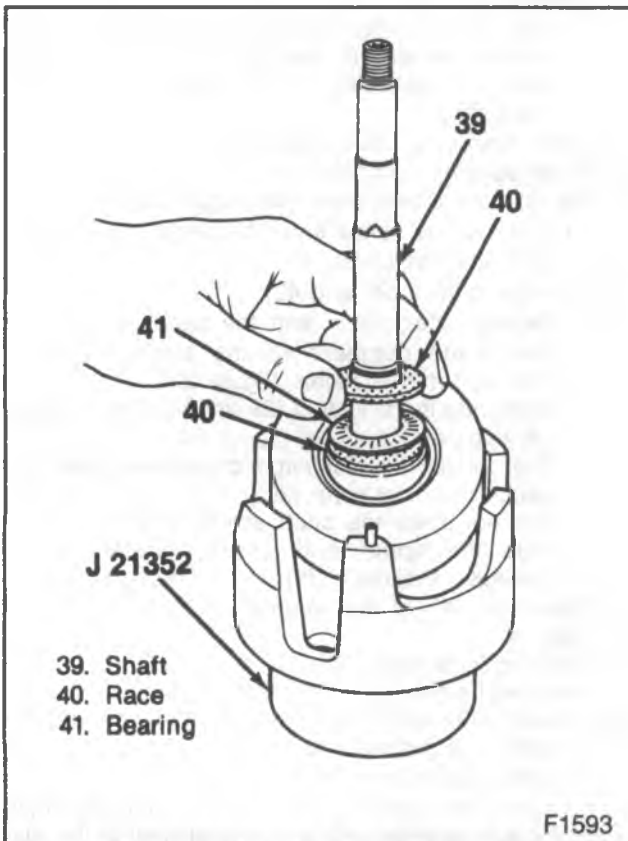

Figure 26—Removing the Front Thrust Races and Bearing
- Rear thrust races (40) and thrust bearing (41) from the shaft (39) (figure 26).
- Shaft (39) from the front cylinder half (29).
- If necessary, bend the discharge cross-over tube (26) to remove the shaft (39).
- Front thrust races (27) and thrust bearing (28).
- Discharge crossover tube (26) from the cylinder half (29) with locking jaw pliers.